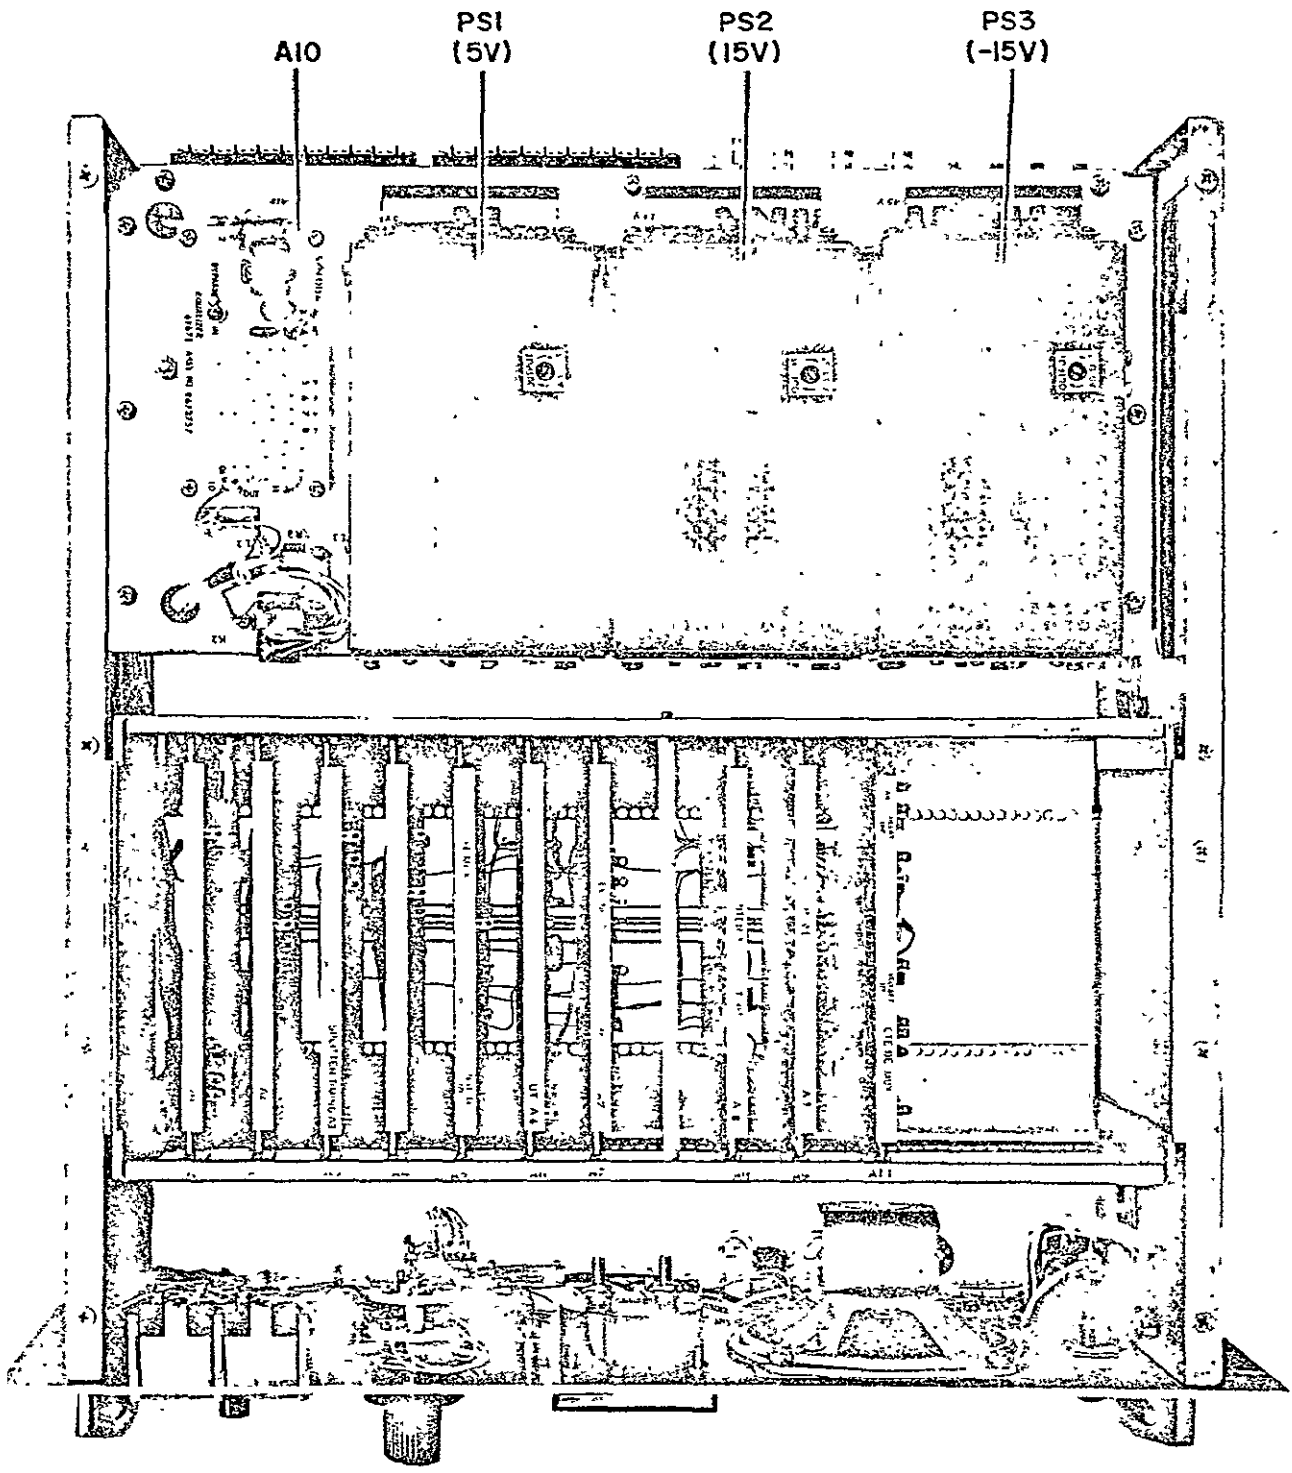

Figure 5-1. Audio/CTE Splitter/Interleaver, Top View
Maintenance of the Audio/CTE Splitter/Interleaver is relatively simple since it may be readily checked while installed in a rack. All inputs and outputs may be checked using an oscilloscope at test jacks on the front panel. Test jacks are provided on the plug-in modules so that key points in the circuits may be easily monitored by retracting the unit from the rack, on its slides and using an oscilloscope (refer to Figure 5-1).
3. Figure 5-1. Audio/CTE Splitter/Interleaver, Top View.
Location of components on the chassis, Figures 5-1, 5-4 and 5-5.